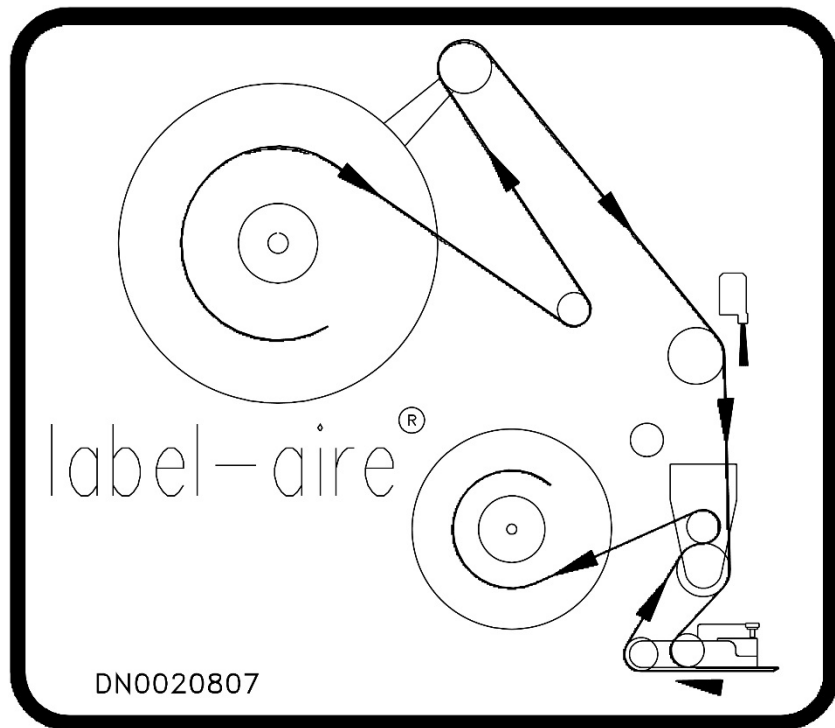
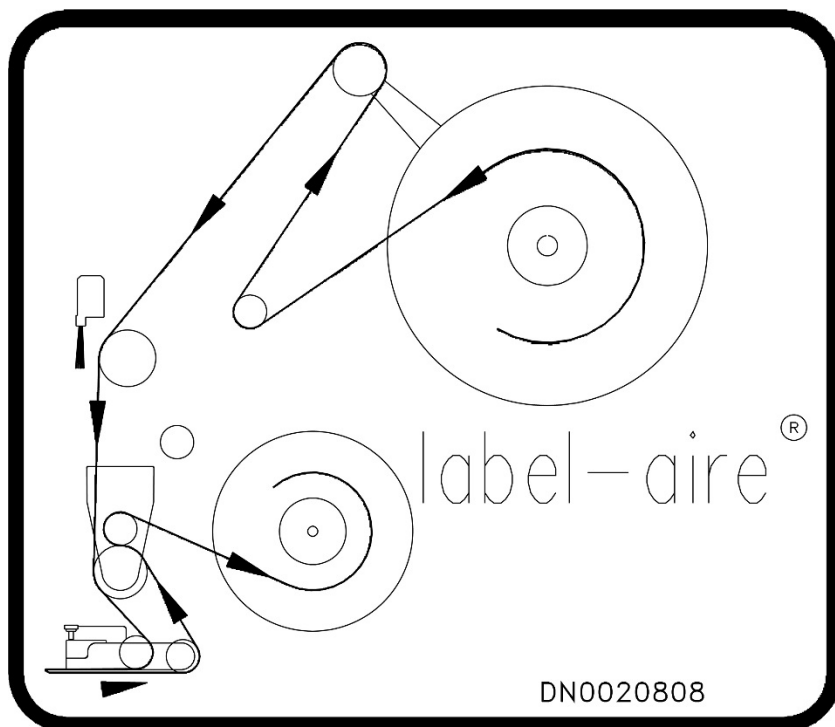

Figure 55 Threading Diagram (Right Hand)
Figure 56 Threading Diagram (Left Hand)
7. Thread the web through the machine as shown in Figure 55 or Figure 56.